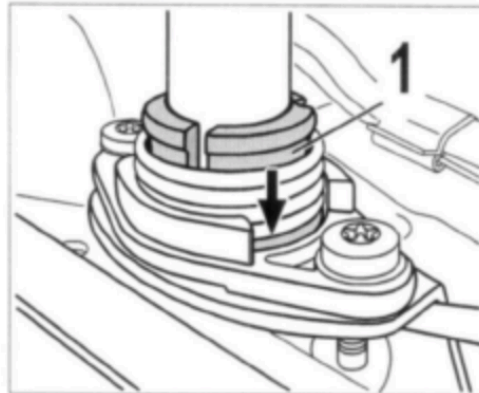

Figure 11
- 12 Also use the syringe to apply grease **to the top of the plastic bushing** (⇒ *Figure 11* -item 1-).